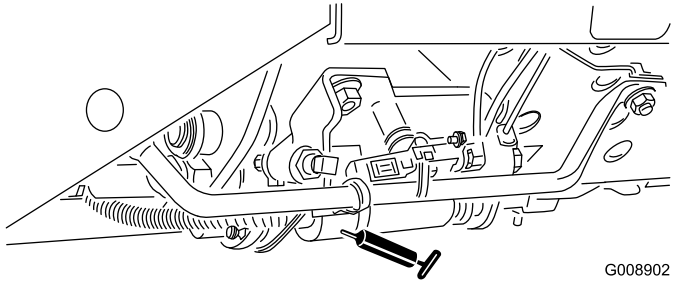

Figure 67
- Mow/transport slide (Figure 67)